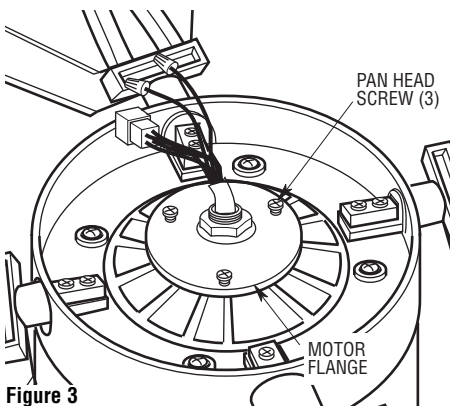
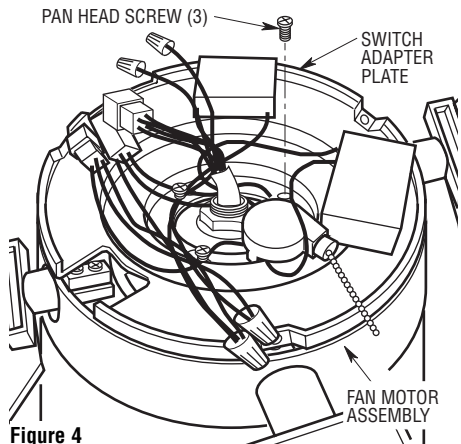

Figure 3
Figure 4
- 5. Remove and retain one of the three pan head screws from the motor flange (Figure 3); loosen the other two pan head screws three or four turns. Position the switch adapter plate on the motor flange so that the two screws mate with the two keyhole slots in the adapter (Figure 4).
- 6. Turn the switch adapter plate clockwise and tighten both screws (Figure 4). Reinstall the other pan head screw in the remaining hole in the adapter.
It is critical that the clevis pin in the motor coupling is properly installed and the setscrew securely tightened. Failure to verify that the pin and setscrew are properly installed (as shown in Figure 4) could result in the fan falling.